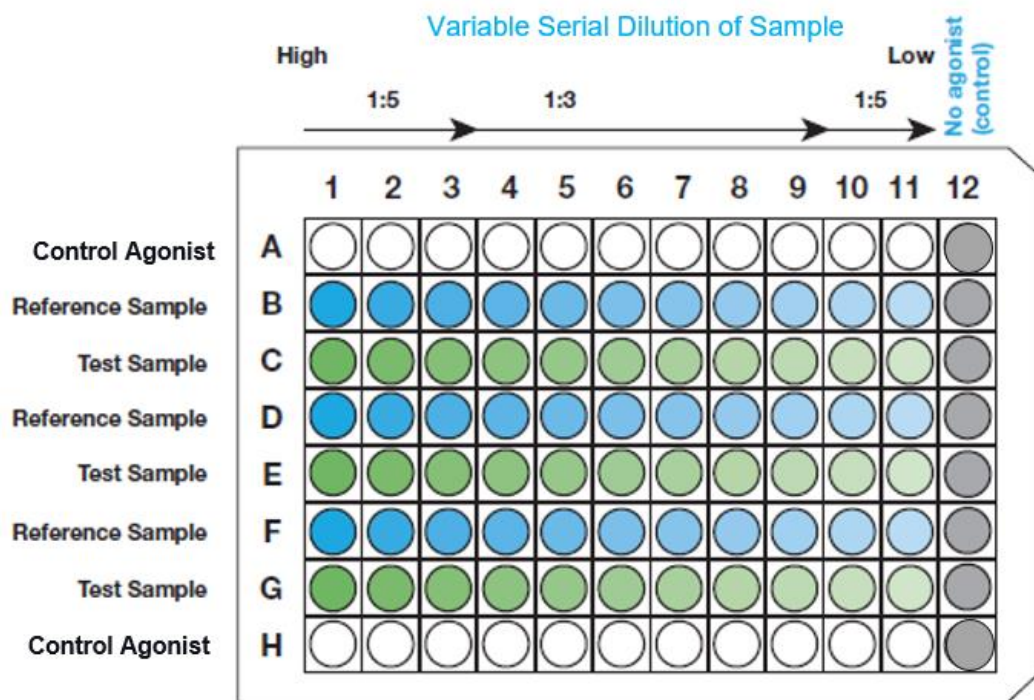

Figure 2. Representative Assay Plate Map
7. Add 20 μL from the Sargramostim reference curve from Row A on the MDP to the appropriate wells of the assay plate (e.g. Rows B, D and F) as shown in the Representative Assay Plate Map (Figure 2).
8. Add 20 μL from the test sample curve from Row B on the MDP to the appropriate wells of the assay plate (e.g. Rows C, E and G) as shown in the Representative Assay Plate Map (Figure 2).
9. Add 20 μL from the GM-CSF control curve from Row C on the MDP to appropriate wells of the assay plate (e.g. Rows A and H), as shown in the Representative Assay Plate Map (Figure 2).